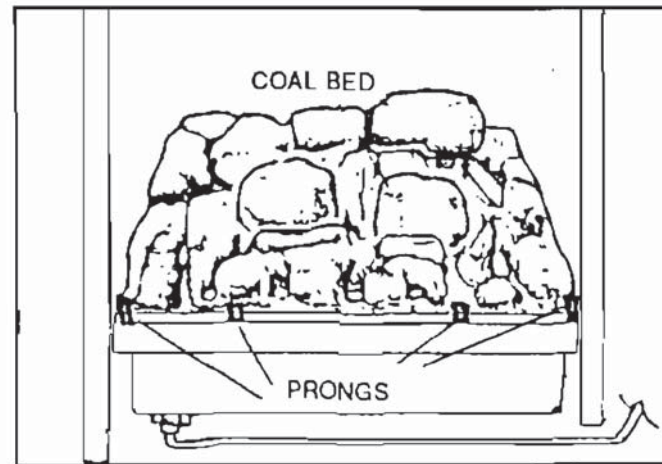

FIG. 5C
- (ii) Locate the coal bed centrally on the front rail in the firebox as shown in Fig. 5C. Slide the bed forwards to ensure that the front end is behind and against the raised prongs of the bottom cover.